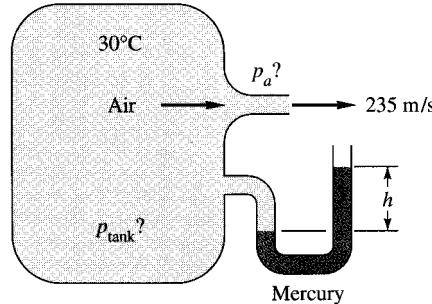

Fig. P9.32
**9.32** The large compressed-air tank in Fig. P9.32 exhausts from a nozzle at an exit velocity of 235 m/s. The mercury manometer reads  $h = 30 \text{ cm}$ . Assuming isentropic flow, compute the pressure (a) in the tank and (b) in the atmosphere. (c) What is the exit Mach number?